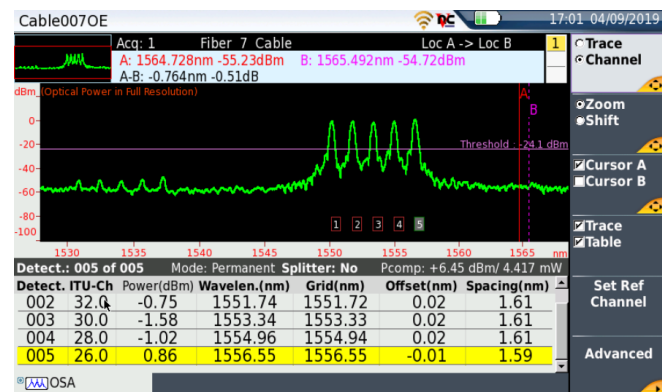

Figure 8: Results
1. Tap the **START/STOP** button to start the test. The **OCC-4056** will sweep the entire DWDM wavelength range. Results will be shown in graphical and tabular formats as shown in *Figure 8*.